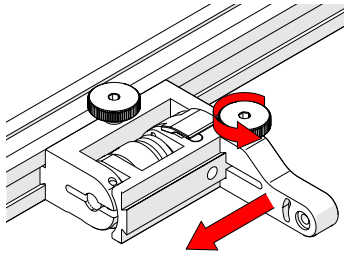

Fig. 96 - Position swing arm
5. Loosen the swing arm knob and slide the swing arm to the opposite end of the probe holder bracket (Fig. 96) or the preferred position. Tighten the swing arm knob.